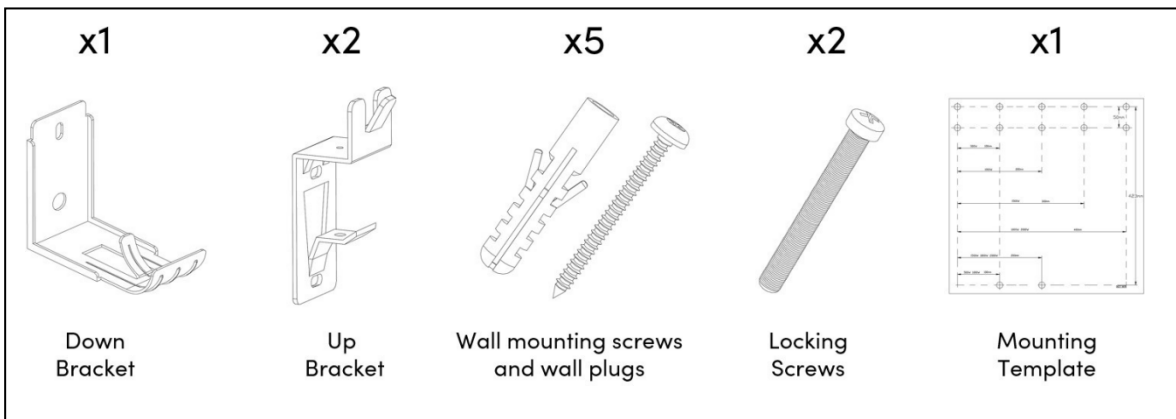

Figure 1 | Supplied Fixings
4. Check that all fixings are supplied as shown in Figure 1.